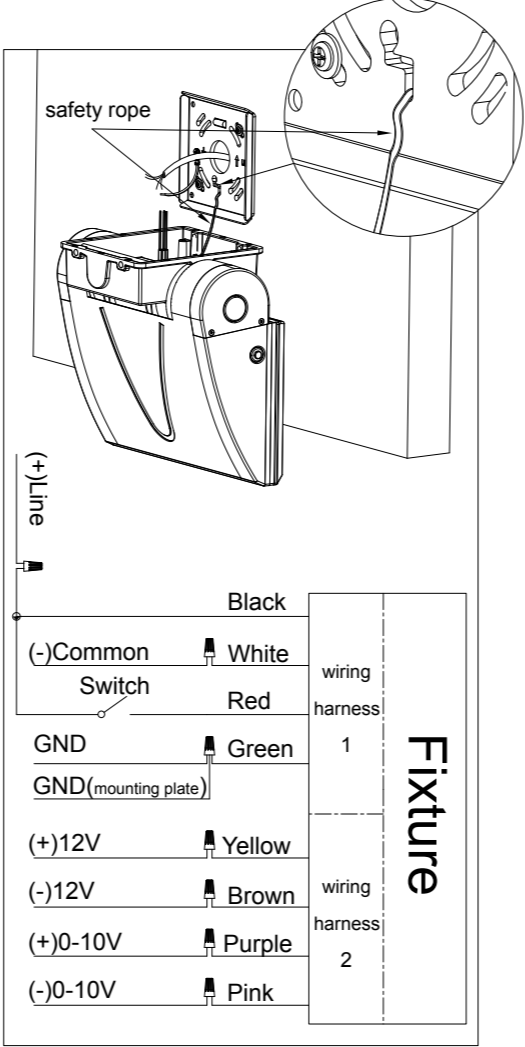

Figure 5
- 2. Insert the safety rope of the lamp into the special-shaped groove of the installation board and draw it into the bottom to clamp it tightly, as shown in Figure 5; at this time, the lamp is hung on the installation board by the safety rope, freeing hands for wiring.
Refer to the wiring diagram at the bottom of Figure 5 and use the wiring caps in the accessories package for wiring.